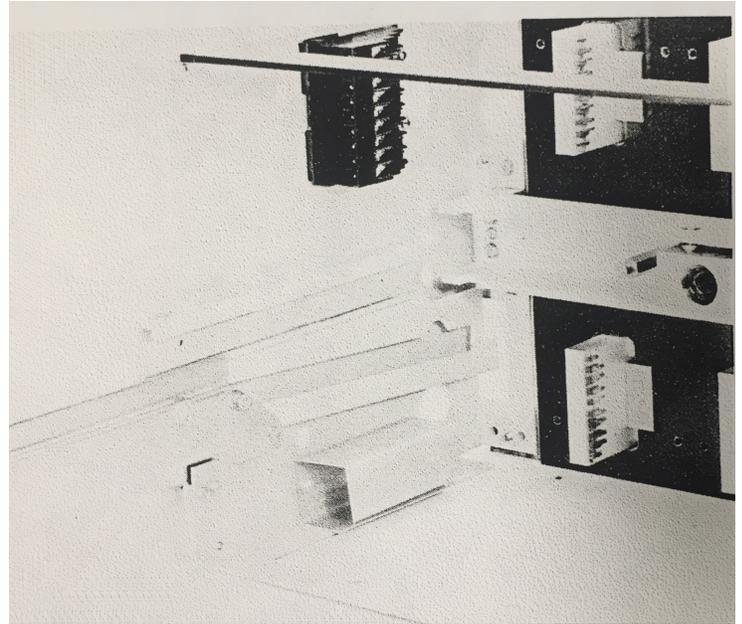

Figure 2. Substructure rail extended.
1. Slide one of the rails out to the fully extended position, as shown in Figure 2, and remove the $\frac{1}{4}$ -20 thread-forming screw located at the rear of the rail using a $\frac{3}{8}$ -inch socket wrench.
2. Remove the two #10-32 thread-forming screws shown in Figure 2 using a $\frac{5}{16}$ inch socket wrench, then remove the sandwich of three rail-guide plates located beneath the rail.